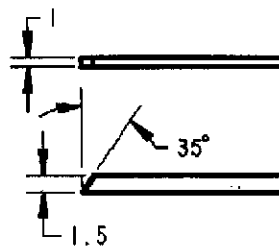

Fig. 1
Extraction Tool Jig...CKZ Jig (Jig feature :See fig.1)
(1) In disengage the Double Lock Plate, use the jig "CKZ : see Fig.1" or driver, etc.. Raise the Double Lock Plate from Final locking in the direction of the arrow (see fig.7,8).